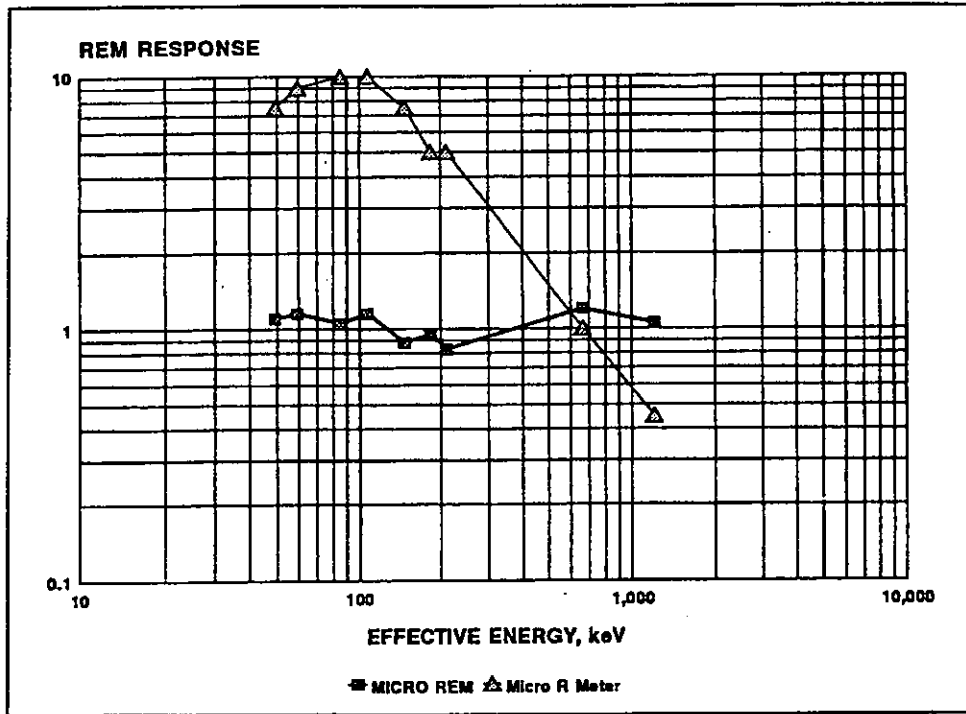

Figure 3
The tissue-equivalent scintillator used in these instruments provides flat energy response calibrated in rem (Figures 3 and 4). This rem response is based on the deep dose equivalent index for 1 cm depth, uniparallel directional beam as calculated on the ICRU standard sphere.
**Energy Response:** See Figures 3 and 4.